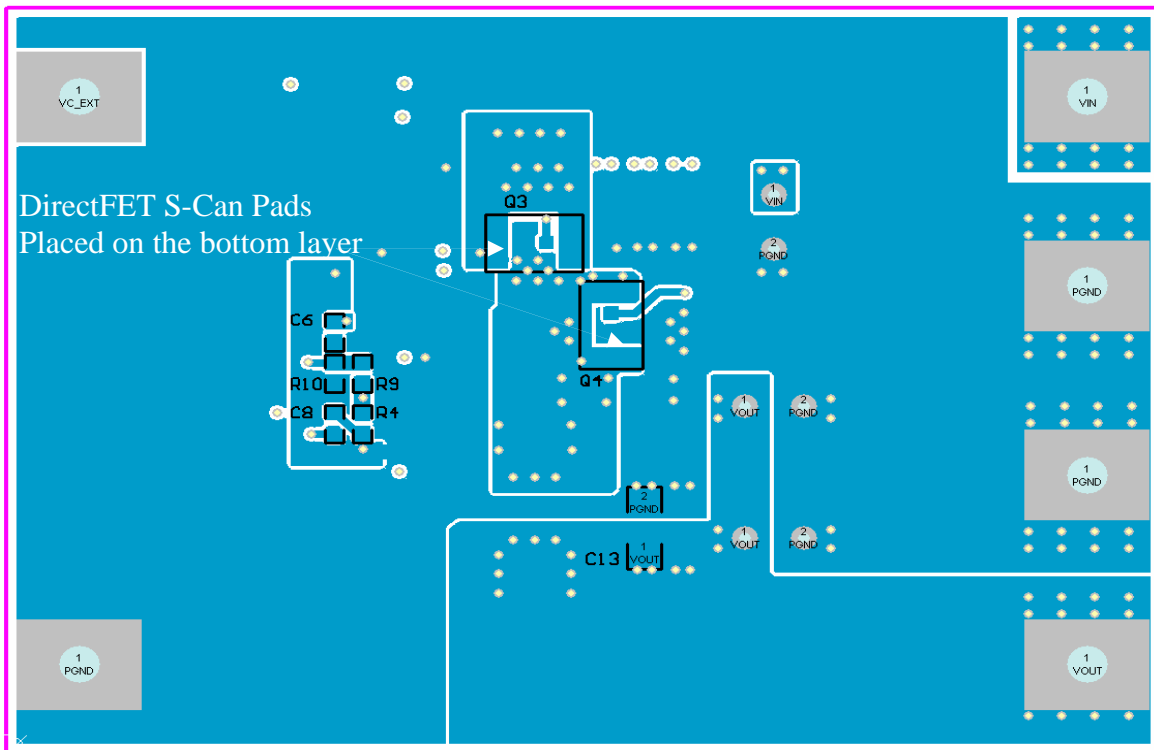

Figure 3d: IRPP3637-12A Reference Design bottom layer layout.
3. A solid ground plane is furnished in mid-layer 2. The connection of the signal ground to power ground is done at a single point in the bottom layer as shown in figure 3d.